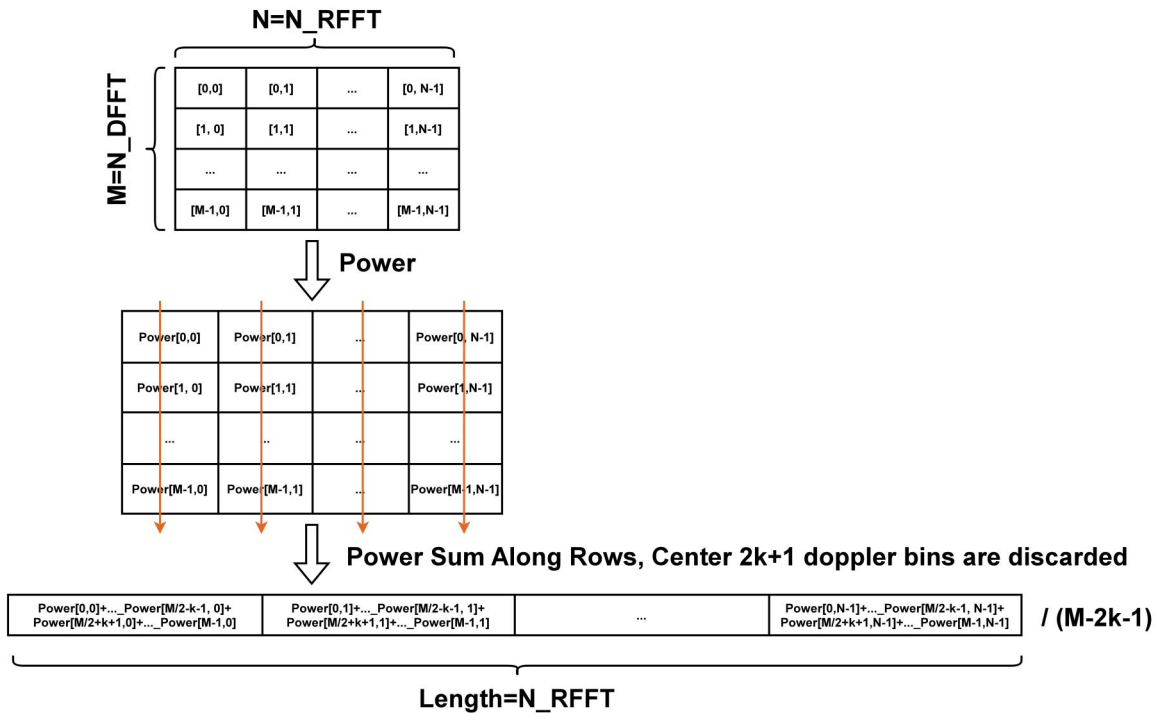

Figure 2-30 Static-Removal Calculation
- (1) Static Removal: Effective only when Frame Structure is configured for 2D FFT. The power of each range-Doppler bin in the DataCube is calculated, and Doppler bins $[N_{\text{DFFT}}/2-k, N_{\text{DFFT}}/2+k]$ are removed, where k is configurable. Press Enter to apply the setting. The result is then averaged along the Doppler dimension to reduce interference from stationary or low-velocity targets and emphasize moving targets. This calculation is performed for every channel, as shown in Figure 2-30.